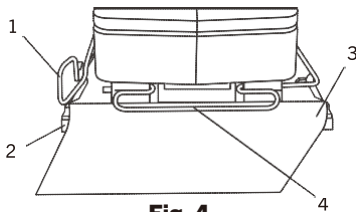
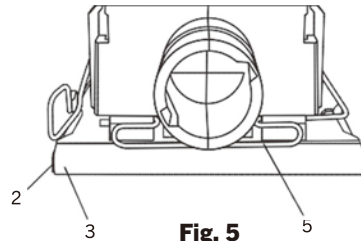

Fig. 4
Fig. 5
1. Lift up and outward on the front and rear sandpaper clamp levers (1) at the front and rear of the backing pad (Fig. 4).
2. Insert one end of the ¼ sheet sandpaper (3) with grit side up into the open front sandpaper clamp (4), making sure it is aligned with the backing pad. Lift the sandpaper clamp lever up and inward to lock the sandpaper into the clamp.
3. Wrap the sandpaper sheet (3) over the backing pad (2) and insert it into the open rear sandpaper clamp (5) (Fig. 5).
Install the sandpaper as shown in Fig. 4 & 5.